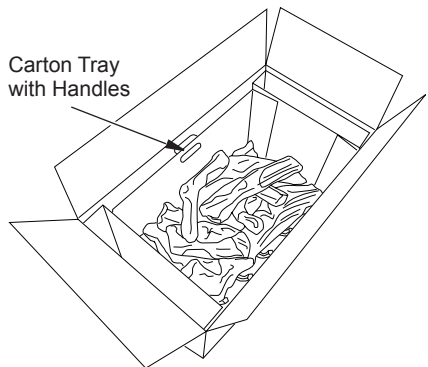

Figure 1 - Log Set in Packing Box
- Remove contents from side compartments (see Figure 1).